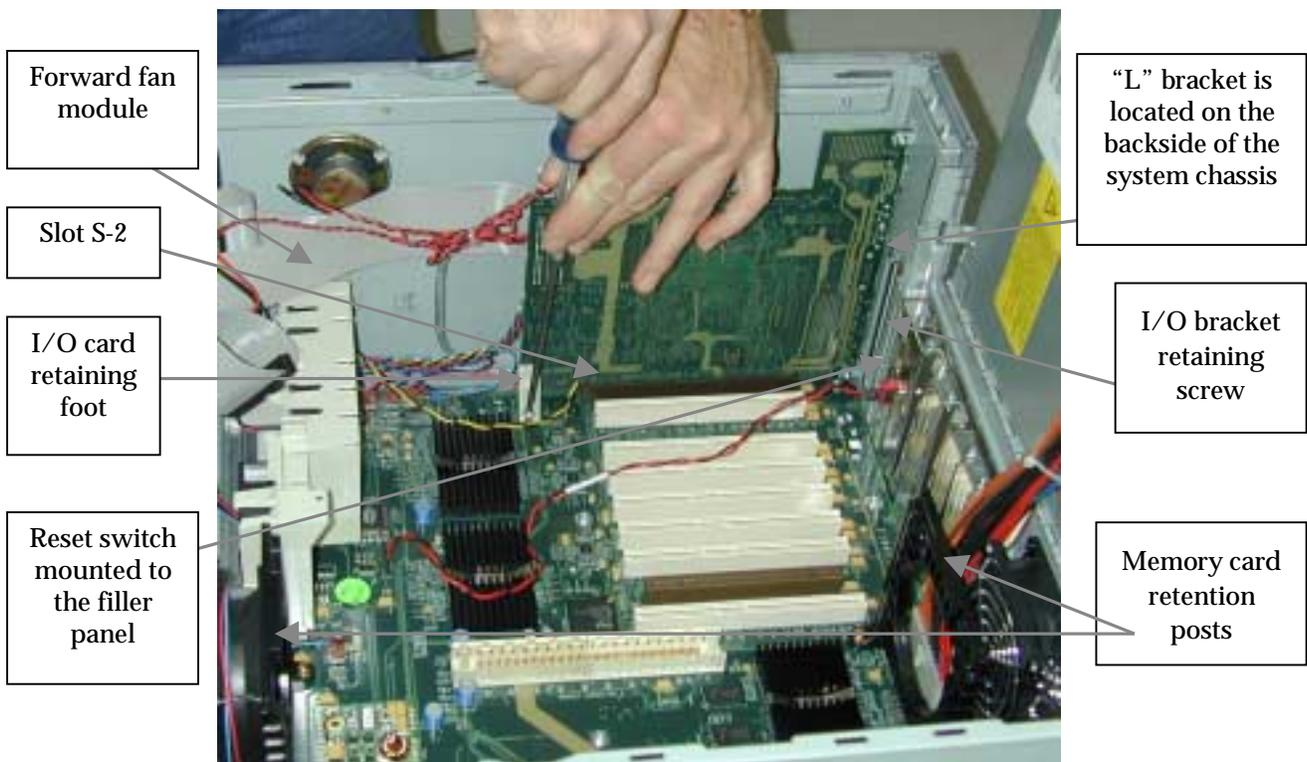
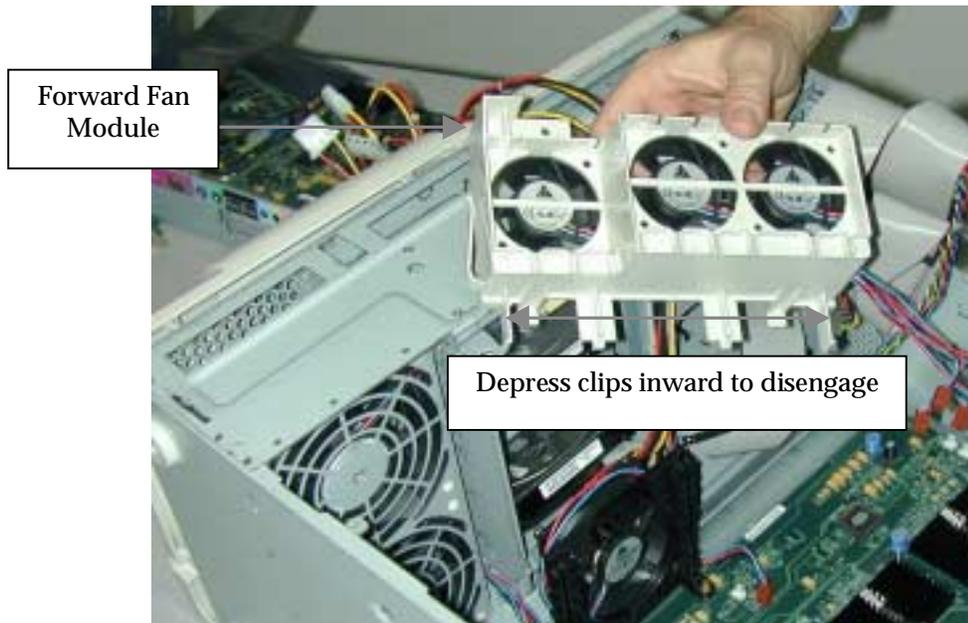
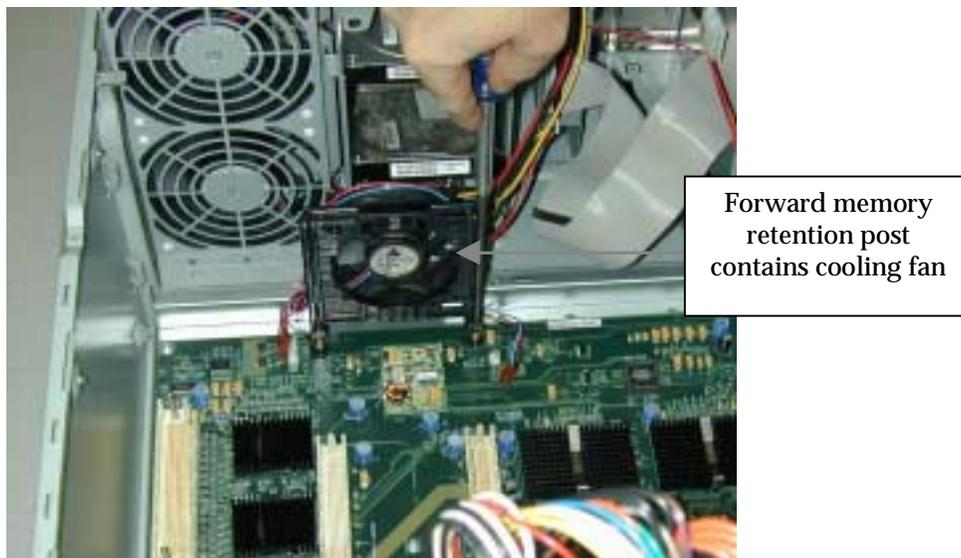

Figure 7 Internal component locations
Figure 8 Forward fan module
Figure 9 Memory card retention post (front)
4. Remove the two (2) screws at the top of the I/O bracket located inside the system.
6. Remove the screw fastening the plastic retaining foot at the front of the I/O board from the baseboard (Figure 7).
7. If so equipped, remove the filler panel mounted reset switch from the system (Figure 7).
12. Locate and remove the four (4) screws (2-each) from the black memory card retention posts.
13. Referring to Figure 7 and Figure 9, note that the forward retention post has a fan mounted to it. There is no need to remove this the fan from the retention post.
14. Locate the forward fan module (refer to Figure 7) and remove the two (2) screws securing the module to the chassis. Then by applying pressure inward towards the center of the module, disengage the mounting two (2) mounting clips located at each end of the lower portion of the module (Refer to Figure 8).
1. Replace the forward fan module by snapping it into place and replacing the two (2) mounting screws. Attach the forward fan module’s power connectors to the baseboard.
2. Replace the two (2) black memory card retention posts and secure them to the baseboard using four (4) screws (2 each). Be sure to place the retention post, which contains the fan, at the front of the baseboard adjacent to the FWD Fan Module. (Refer to Figure 7 and Figure 9).
2. Replace the I/O bracket retaining screw that holds the I/O bracket to the rear of the system. Refer to Figure 7.
3. Replace the two (2) screws at the top of the I/O bracket mounting it to the inside of the system.